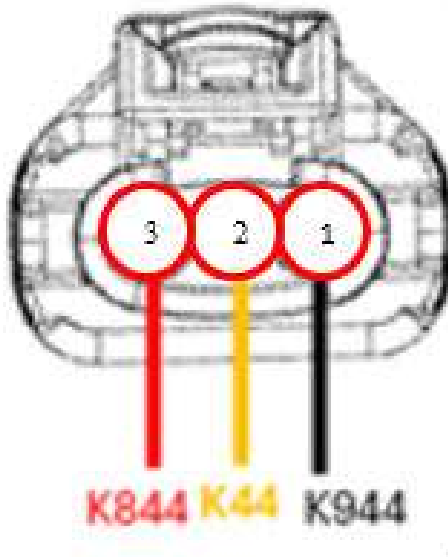

Fig. 6
19. Perform an electrical pin-to-pin test with multimeter to confirm the electrical continuity Fig. 6.